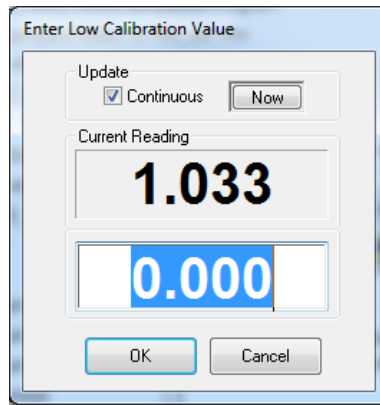

Figure 61: Low calibration value for current
- nn) Observe the value in the Current Reading field. Wait until the value stabilizes. The value should be close to the voltage applied by the calibrator (Figure 61).